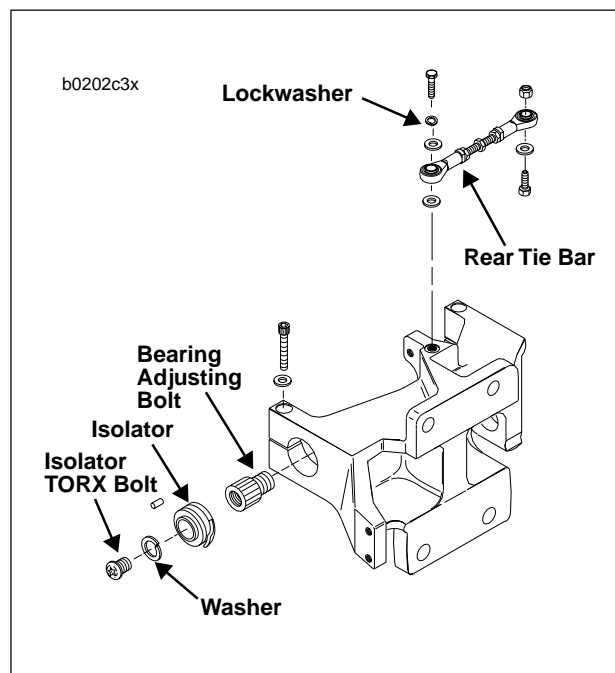

Figure 6-8. Rear Isolators
2. See Figure 6-8. Install right rear isolator. See 2.20 REAR ISOLATORS.